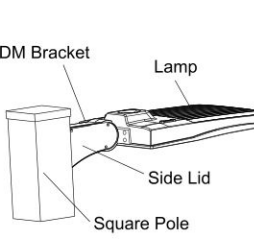

Figure 14
- Step 2: Put the connected wire into the junction box, then cover the junction box.(Figure 14)